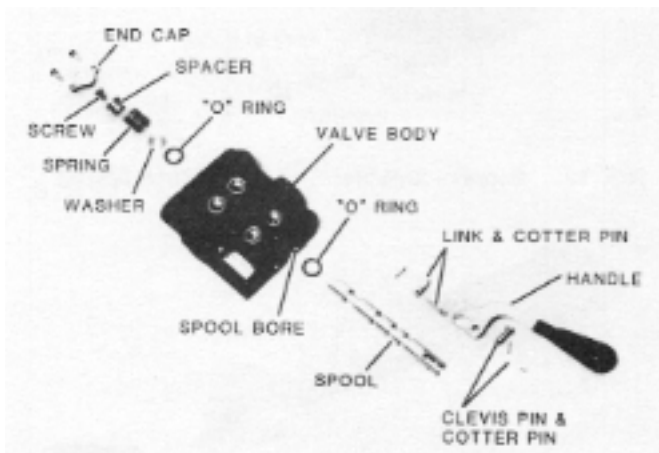

FIG. 16. Spool Without Detent
1. Remove spool without detent first; Remove two screws, end cap, spacer screw, spacer, spring, and washer from valve (Fig. 16).
4. Coat remaining spool with oil and slide spool into valve bore from relief valve side (Fig. 16). Push spool into bore only far enough to expose handle side "O" Ring groove in valve body. Coat "O" Ring with lithium grease and install in groove of valve body. Check that "O" Ring is properly seated in groove. Push spool over "O" Ring only far enough so that other end of spool exposes "O" Ring groove in valve body.